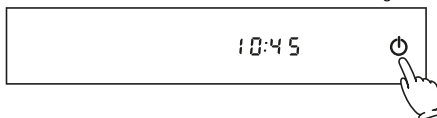

Fig. 6-8
- i.) In off status, press the ON/OFF button for 3 seconds (Fig 6-8).